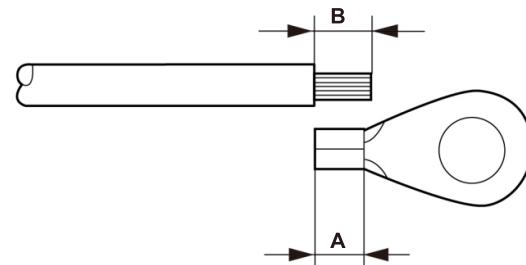

Figure 3.15 Suitable length
3) Strip the ground cable insulation to a suitable length(see Figure 3.15).